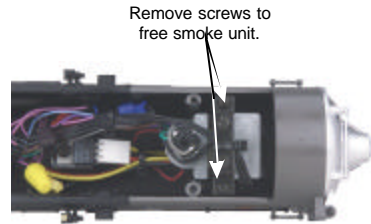

Figure 15
1. To replace the headlight in this model you will need to follow the disassembly instructions for smoke unit maintenance in figure 15 on pg. 19. Once the smoke unit is removed you can access the wires for the headlight (see figure 8).
4. With the board free of the bracket, use a phillips head screwdriver to remove the bracket from the inside of the boiler shell (see figure 15).